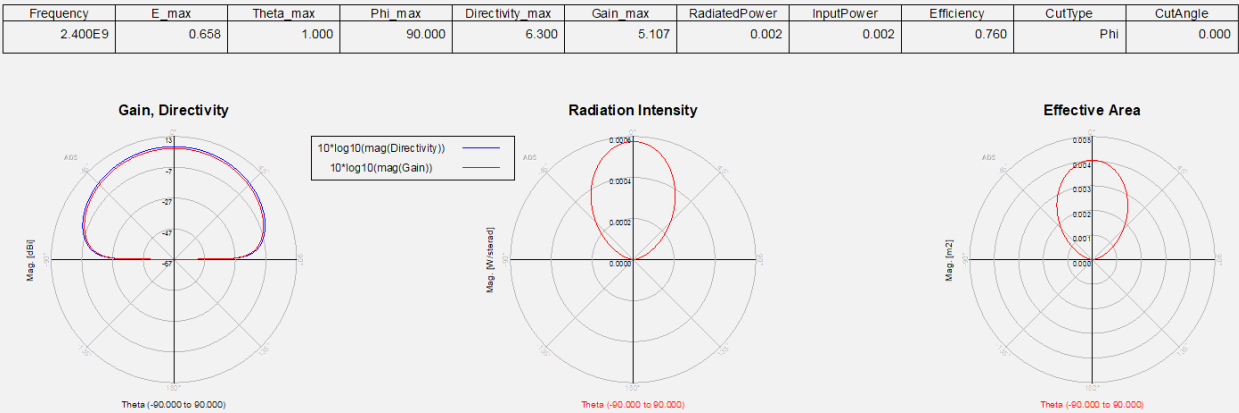

Figure 36. Antenna radiation patterns shown in data display
4. The results, shown in Figure 36, will open in a new window.